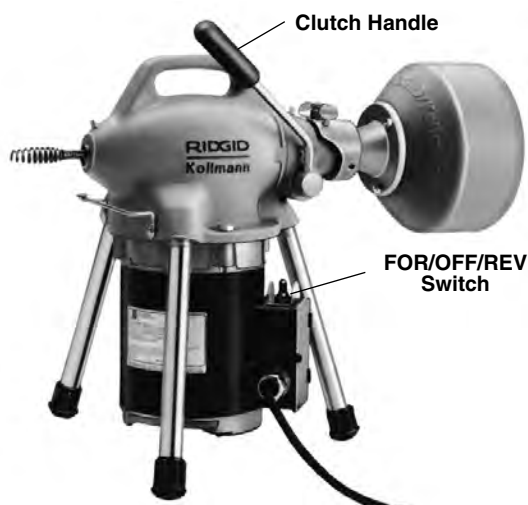

Figure 1 – K-50 Drain Cleaner
1. Make sure the Drain Cleaning Machine is unplugged and the directional switch is set to the **OFF** position. (Figure 1).